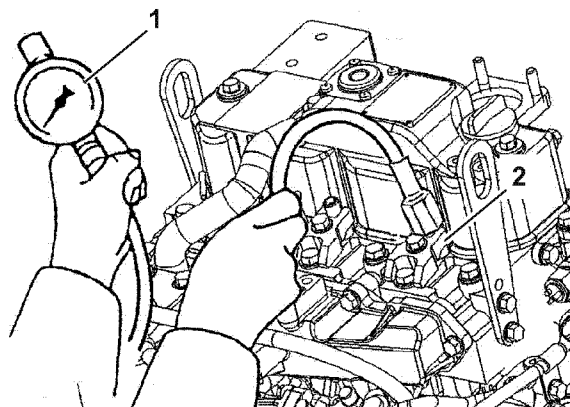

Figure 14-2
9. Loosen the nozzle stopper of the target cylinder, and remove the fuel injection valve. Attach a nozzle seat on the tip end of the compression gauge adapter (2, **Figure 14-2**), and install to the cylinder head. Tighten the nozzle stopper, and set the compression gauge (1, **Figure 14-2**) to the adapter.